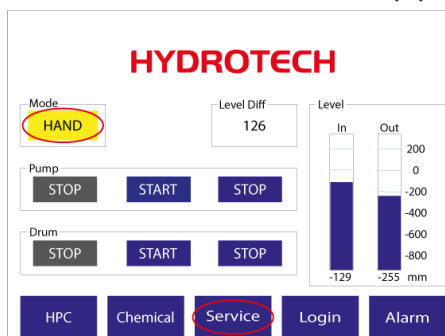
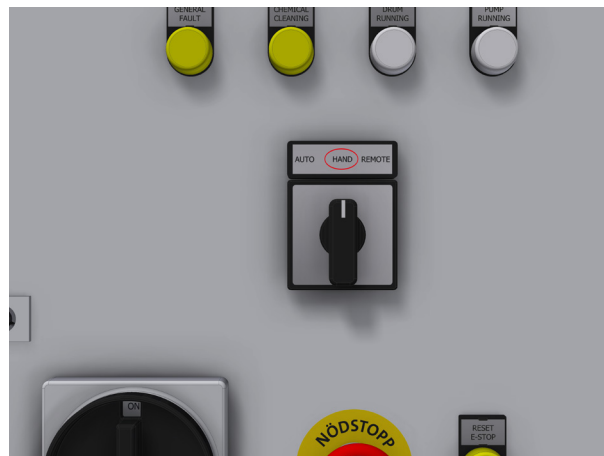

Figure 6.4 Main menu on electrical cabinet operator panel.
Figure 6.3 Mode selector
1. In order to operate the filter cover, the mode selector shown in Figure 6.3 must be in the “HAND” position. When in HAND mode, “HAND” is shown in the operator panel main menu, see Figure 6.4 below.